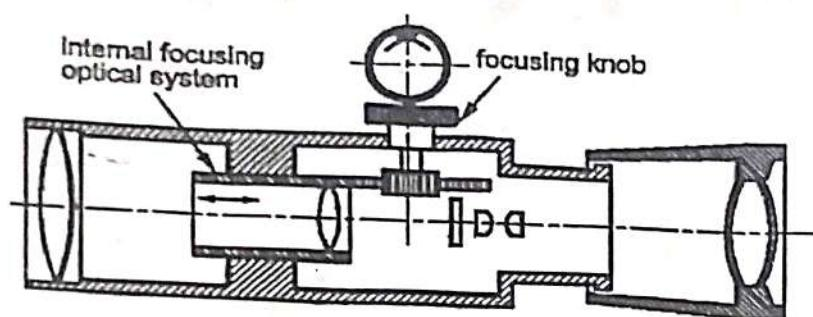

Figure 2.109 Optical system of an alignment telescope
* The Focusing Knob can be clearly seen in the optical system shown in figure 2.109 .